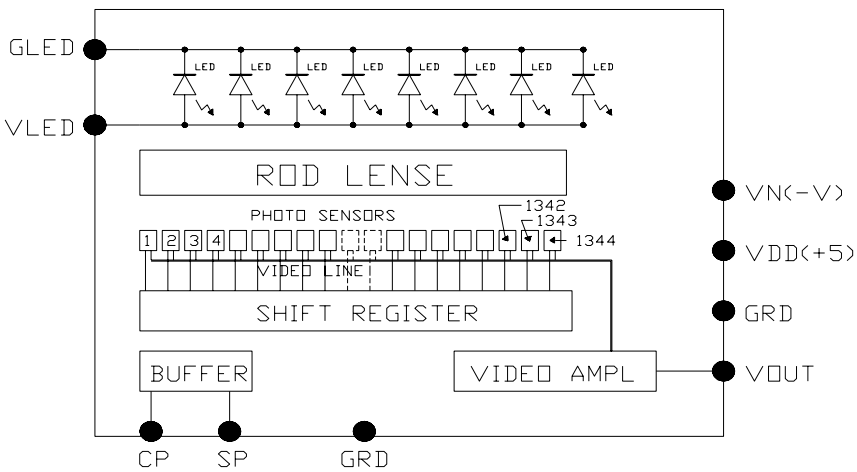

Figure 1: Block Diagram of the AMIS-710600-A8 Module
As described in the previous section, the AMIS-710600-A8 imaging array consists of seven image sensors. Each solid-state sensor contains an integrated array of photo-detectors with their associated multiplex switches and a digital shift register, to sequentially readout each video pixel from its photo-detector. Seven of these integrated array sensors are bonded on the PCB and sequentially cascaded to form a CIS line array of 1344 pixel elements. Since each sensor has I/O pads for the shift register start pulse (SP) and the end-of-scan pulse (EOS); each preceding sensor's EOS in the sequence loads into the following sensor's SP, providing for a continuously scanning array each time the first sensor's SP in the sequence is loaded. These sequential video pixels from each sensor are summed on to a common video line, which terminates into a common buffer amplifier. The output of the amplifier produces the output video pixels from the module (see Figure 1).